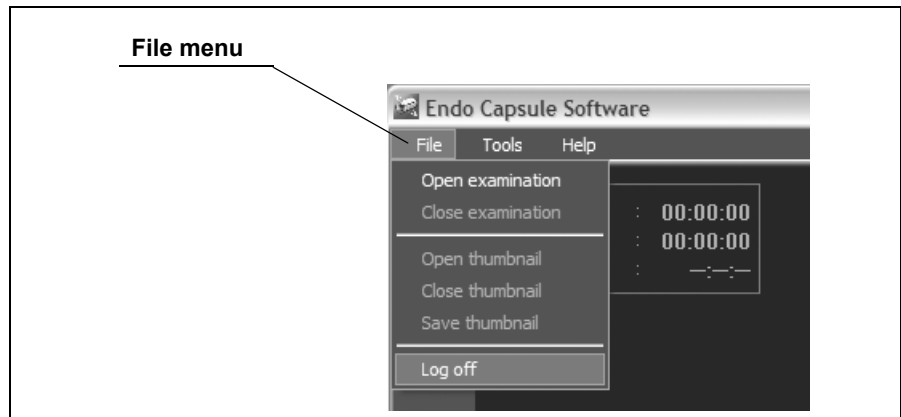

Figure 4.37
1. Select “Log off” from the “File” menu on the main screen (see Figure 4.37).